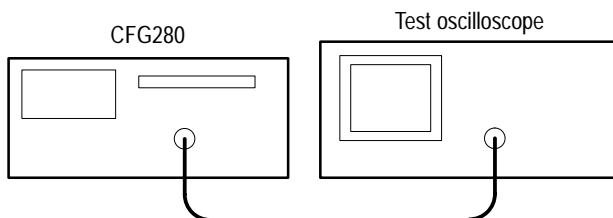

Figure 4: TTL Signal Test Setup
1. Connect the **SYNC OUT** connector on the CFG280 Function Generator to the input BNC connector on an oscilloscope (see Figure 4).